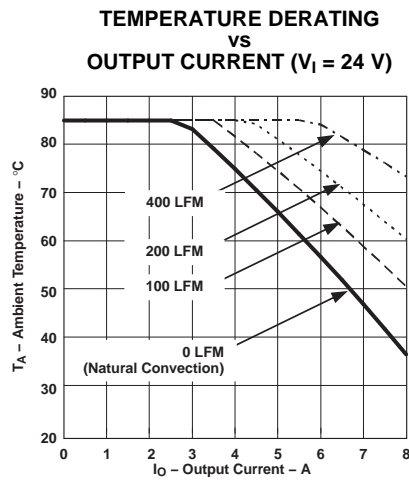
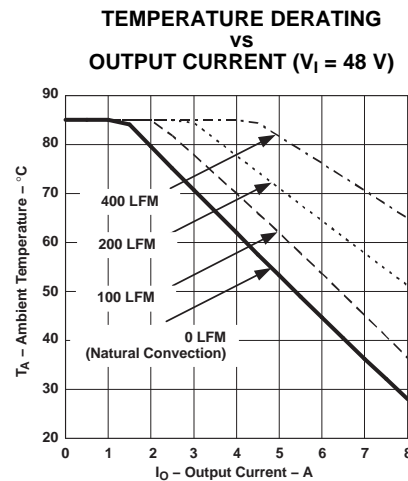

Figure 9.
Figure 10.
- (4) The temperature derating curves represent operating conditions at which internal components are at or below manufacturer's maximum rated operating temperature. Derating limits apply to modules soldered directly to a 100-mm x 100-mm, double-sided PCB with 2 oz. copper. Applies to Figure 9, and Figure 10.